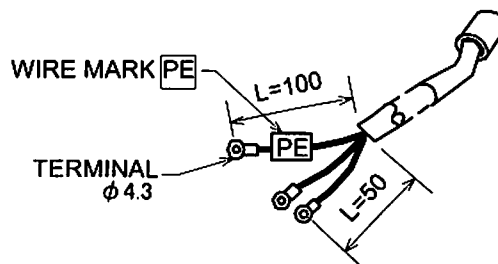

Fig.5-9 Power Cable
- (1) Connect the power cable terminal to the terminal board of user's power distribution board for equipment. The wire with [PE] mark is for earth use and other remaining two wires are for single phase AC power. (See Fig. 5-9, Table 5-1)